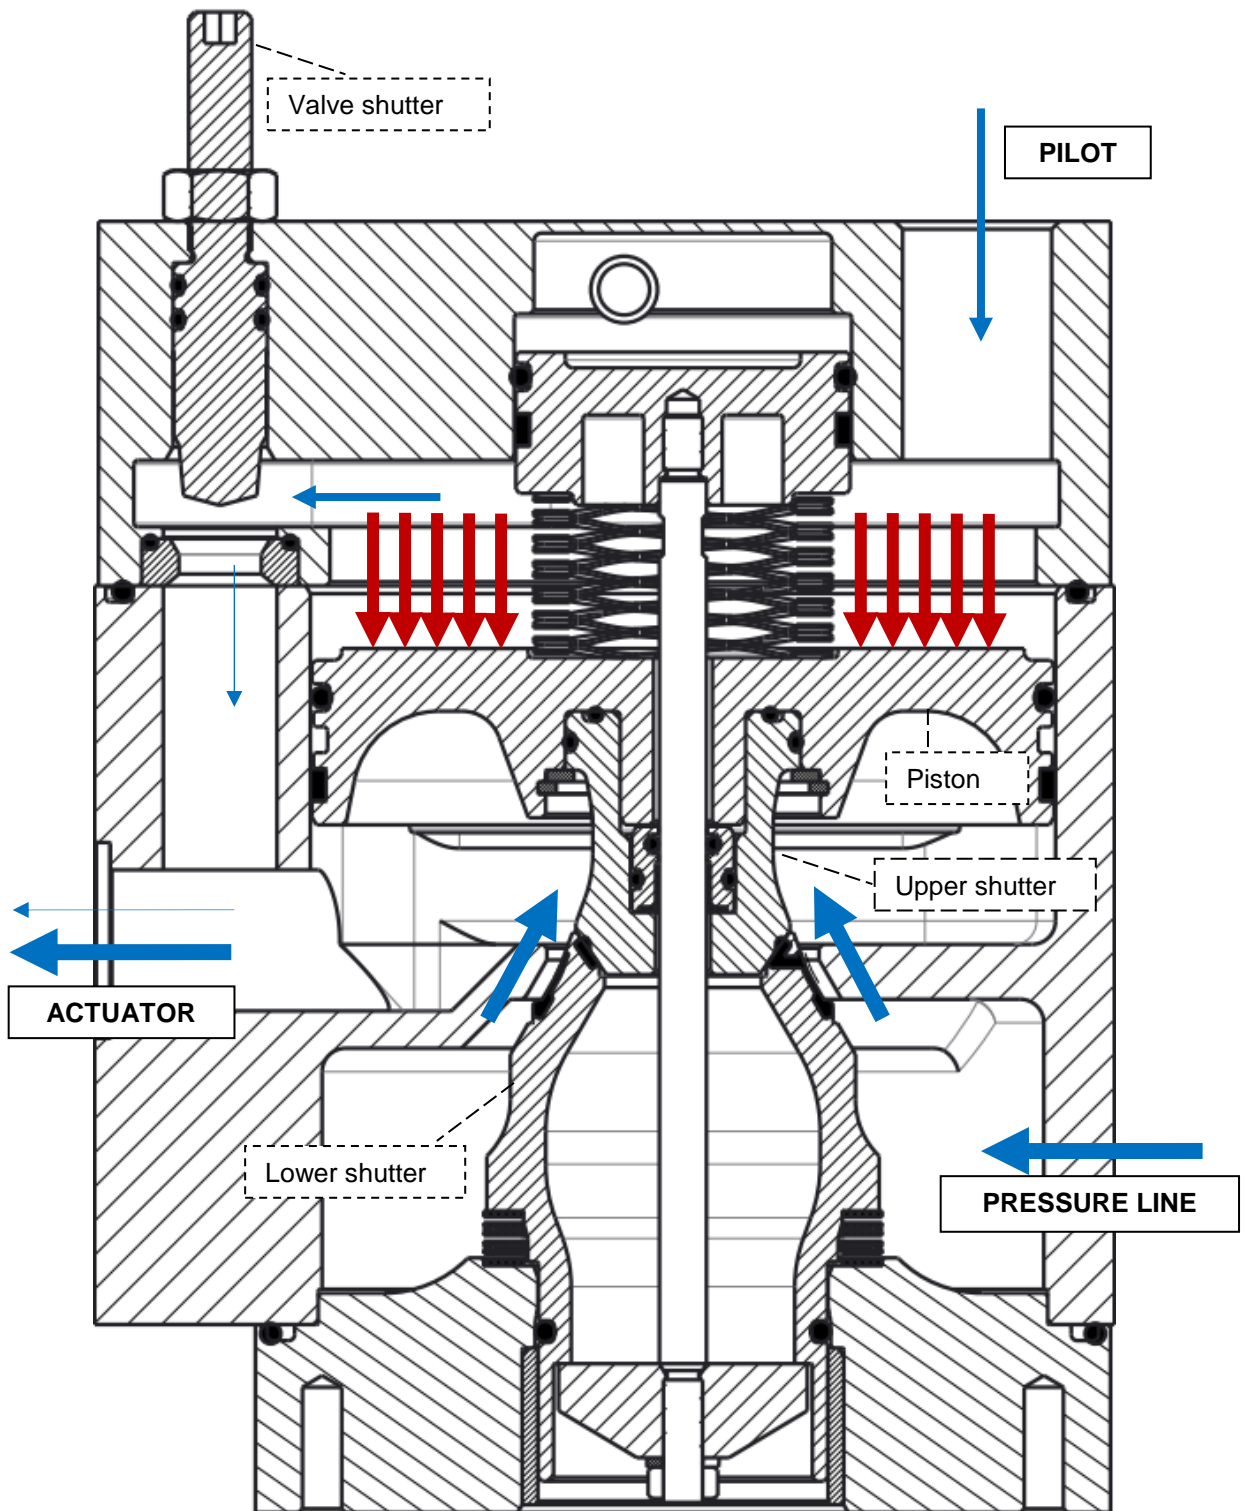

Figure 6 - charge setup: on-off mode
- c) if the flow rate is much greater than a threshold value depending on valve shutter adjustment, the valve shutter throttling generates a pressure drop between the two side of the piston and the working fluid pushes down the piston and the lower shutter, allowing the connection between the BV supply chamber and the actuator chamber. In this case the lower shutter generates the greatest flow section available because the piston reaches its lower stroke limit. This case is called "on-off mode" (figure 6).